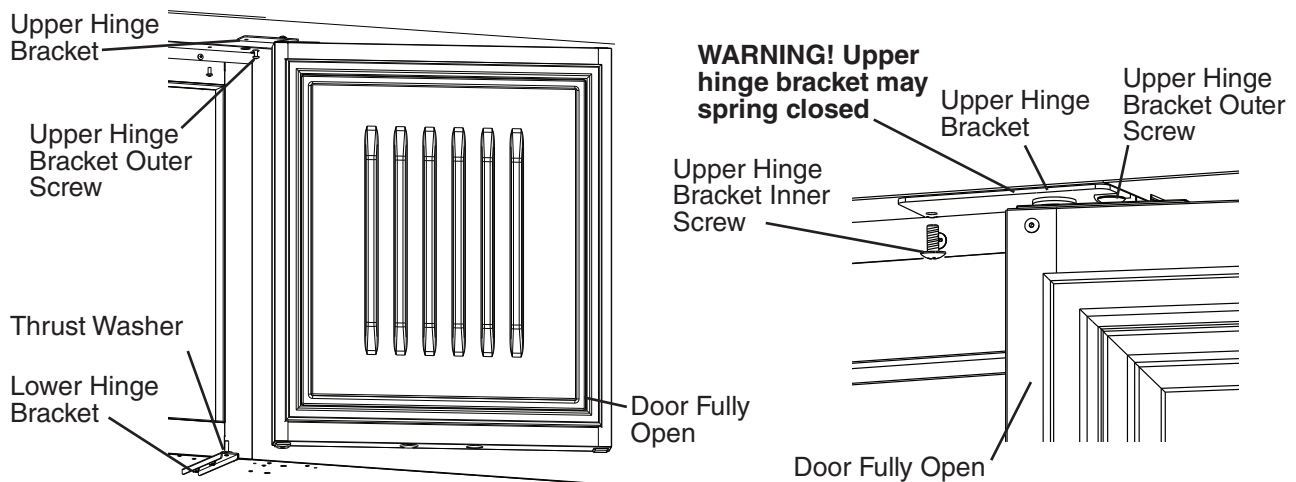

Fig. 27
- 16) Be sure the lower hinge bracket thrust washer is in place, then place the door on the lower hinge bracket in the fully open position. Slide the door upper hinge bracket outer slot onto the upper hinge bracket outer screw. See Fig. 27.